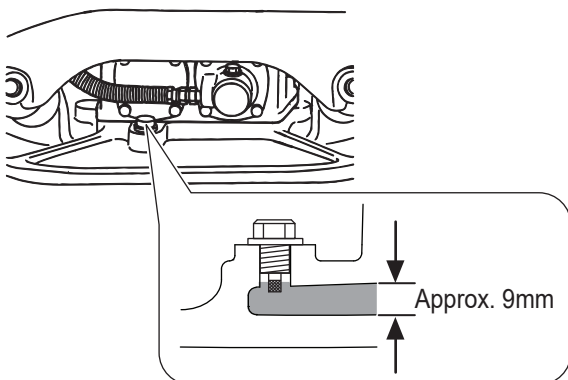

Fig.10
- At every 100 hours of operation, set the machine on a level surface and remove the oil gauge of the vibrator. Check the oil level to see if it is within the allowable range. (Fig.10)